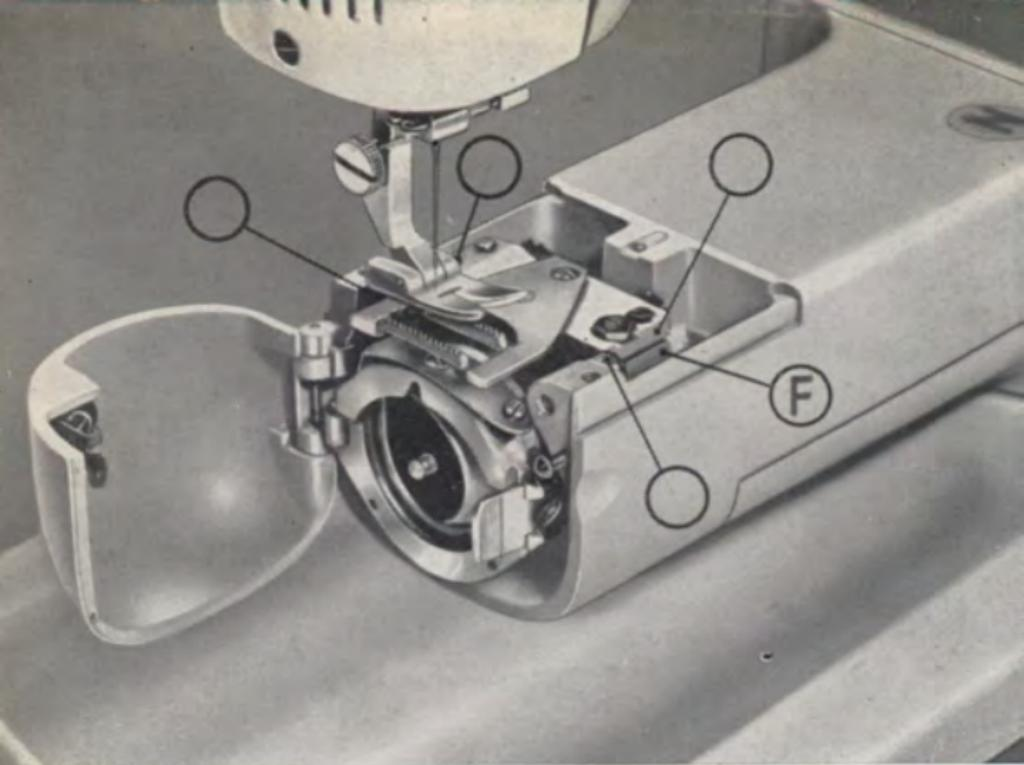

Fig. 5
- c) Open the shutter, remove the needle plate (see instructions on page 15) and squeeze a few drops of oil onto the points indicated in Fig. 5, including felt F.